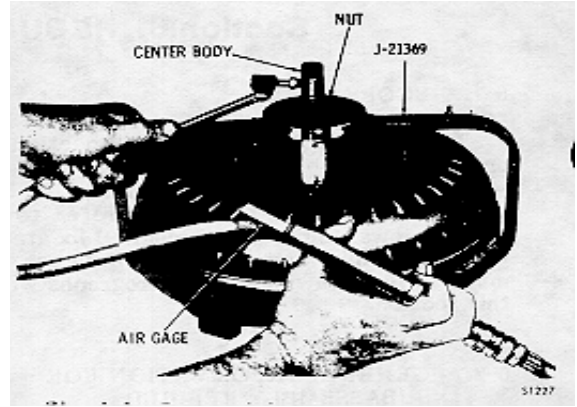

Fig. 6-2. Pressurizing torque converter for leak test
(1) Clear the torque converter of oil. Examine the oil for foreign matter or metal, indicating internal damage.
(2) Install the torque converter leak test fixture J-21369 onto the converter (fig. 6-2). The center body must be installed first, with its nut loosened (toward top of body).
(3) Next, place the converter, and center body, in the fixture bracket. Tighten the nut firmly to seal the center body in the torque converter hub.
(4) Pressurize the converter to 75 psi maximum. Submerge the pressurized assembly in water, and observe closely for bubbles that indicate leakage. If the assembly leaks, it should be replaced.